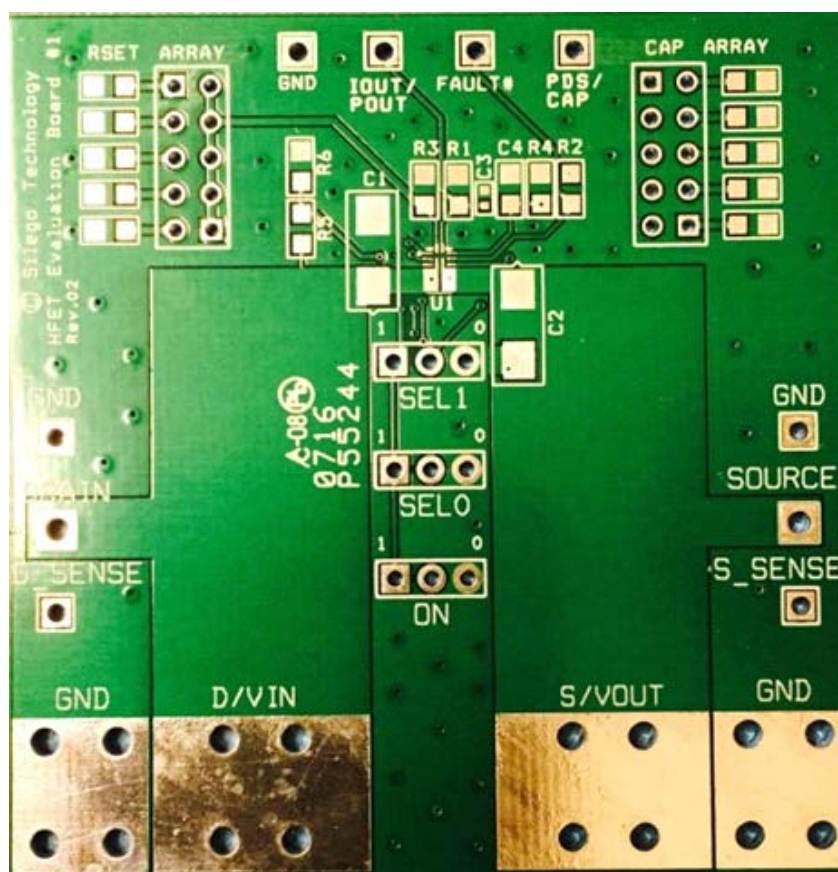

Figure 17. SLG59H1016V Evaluation Board
1. Since the VIN and VOUT pins dissipate most of the heat generated during high-load current operation, it is highly recommended to make power traces as short, direct, and wide as possible. A good practice is to make power traces with absolute minimum widths of 15 mils (0.381 mm) per Ampere. A representative layout, shown in Figure 17, illustrates proper techniques for heat to transfer as efficiently as possible out of the device;
A HFET1 Evaluation Board for SLG59H1016V is designed according to the statements above and is illustrated on Figure 17. Please note that evaluation board has D_Sense and S_Sense pads. They cannot carry high currents and dedicated only for RDS_{ON} evaluation.